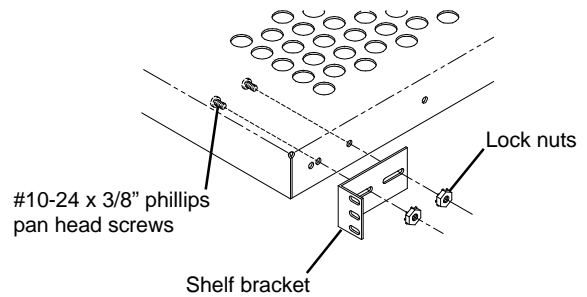

Figure 1
1. The Front and rear **Shelf Brackets** are assembled in reverse for shipping purposes. Remove and re-assemble them as shown in **Figure 1**.